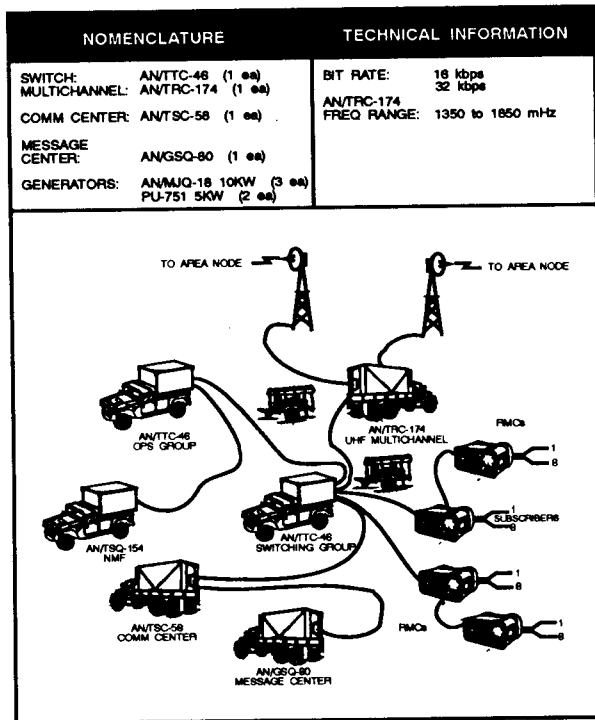

Figure 3-28. Typical TRI-TAC medium extension node.
**Function.** The TRI-TAC headquarters medium extension node consists of an AN/TTC-46 switch, an AN/TRC-174, a message center, and an operations van. The medium extension node services larger units requiring access to the theater area communications system. See Figure 3-28.